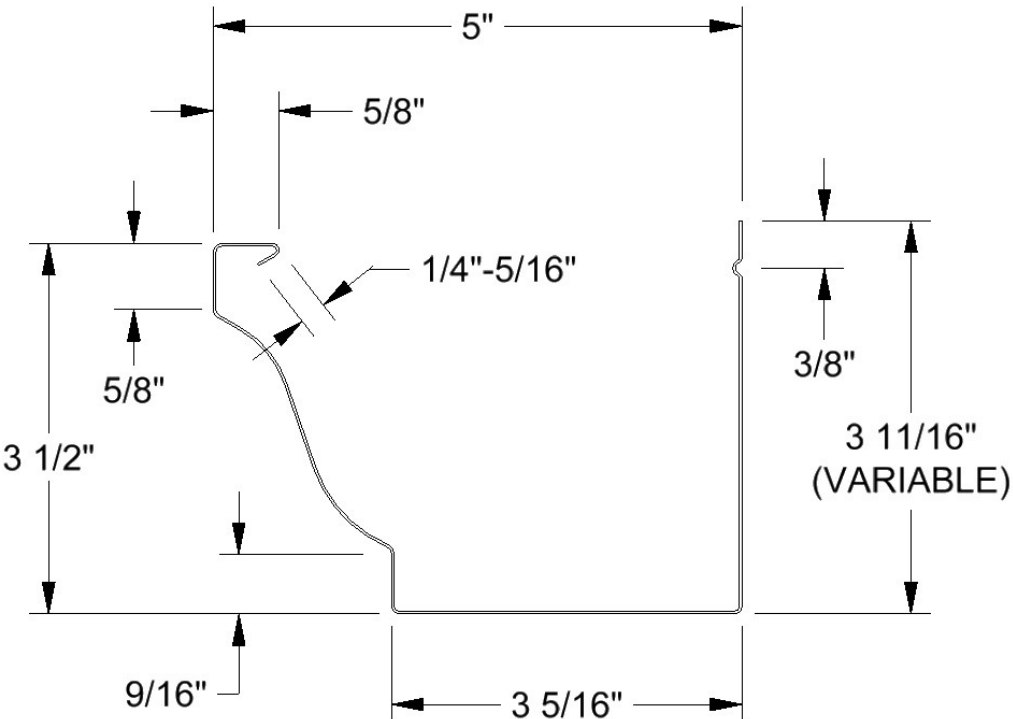
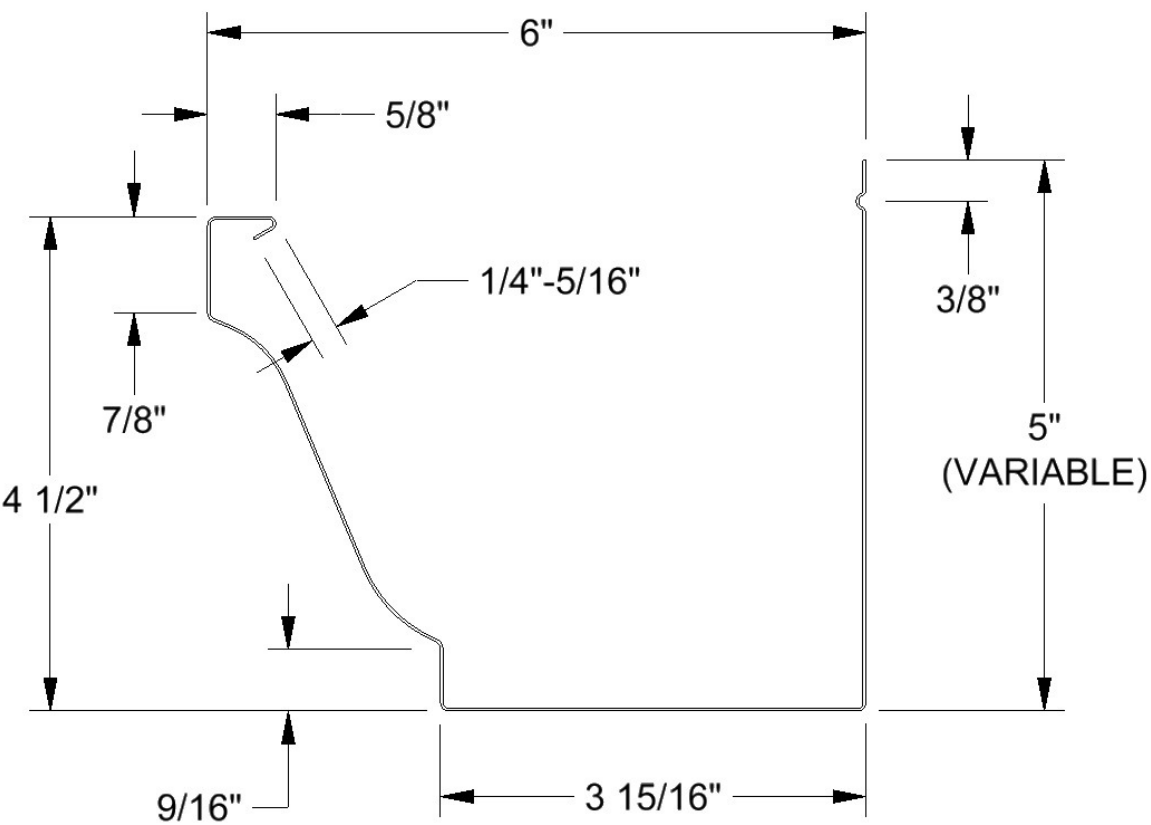

Figure 63: 5" Gutter Profile
Figure 64: 6" Gutter Profile
- Run an eight (8) ft. length of gutter out of the machine. This piece will be used to determine what steps must be taken to correct the gutters appearance.
- Inspect the width of the gutter. This dimension should be 5” +/- 1/16” for the 5” gutter (Figure 63) and 6” +/- 1/16” for the 6” gutter (Figure 64).